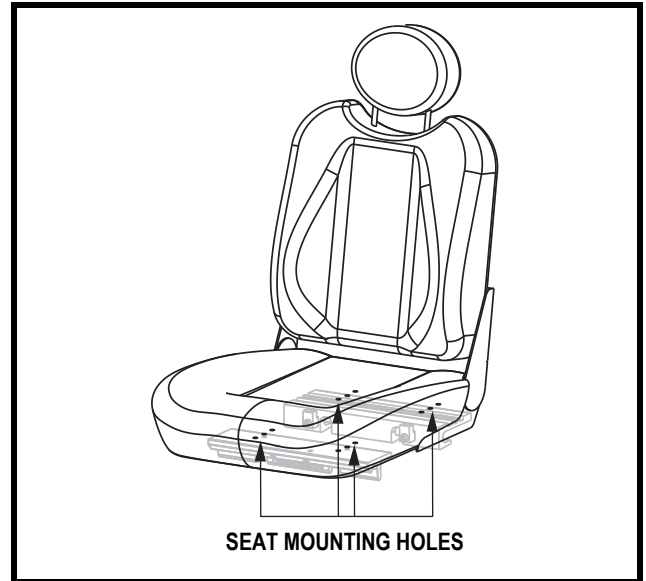

Figure 15. Seat Mounting Holes
5. Reposition the extrusions on a different set of mounting holes. You must move both extrusions the same number of holes either forward or backward. **See figure 15.**